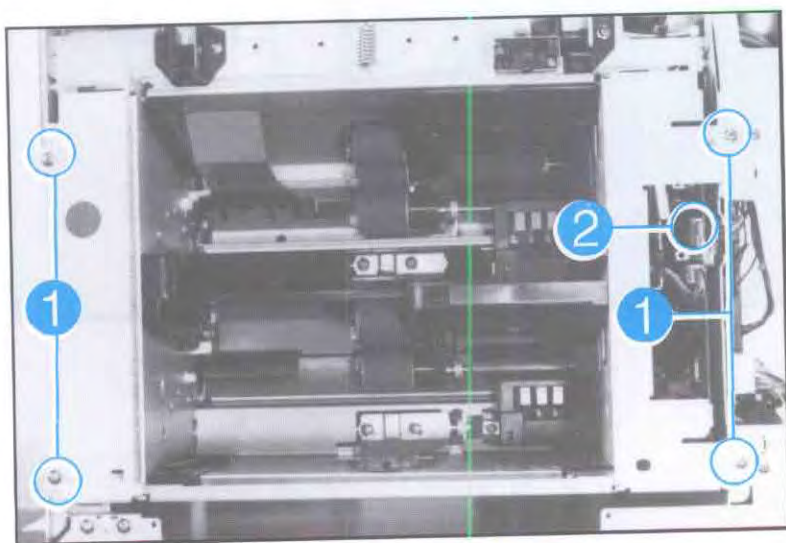

Figure 6-26. Paper Input Unit (PIU)
4. Remove the (4) screws securing the PIU (see Figure 6-26, callout 1).
5. Unplug the (1) connector (J301) from the Paper Input Unit PCA (see Figure 6-26, callout 2).
4. Remove the Paper Input Unit (see Figure 6-26).